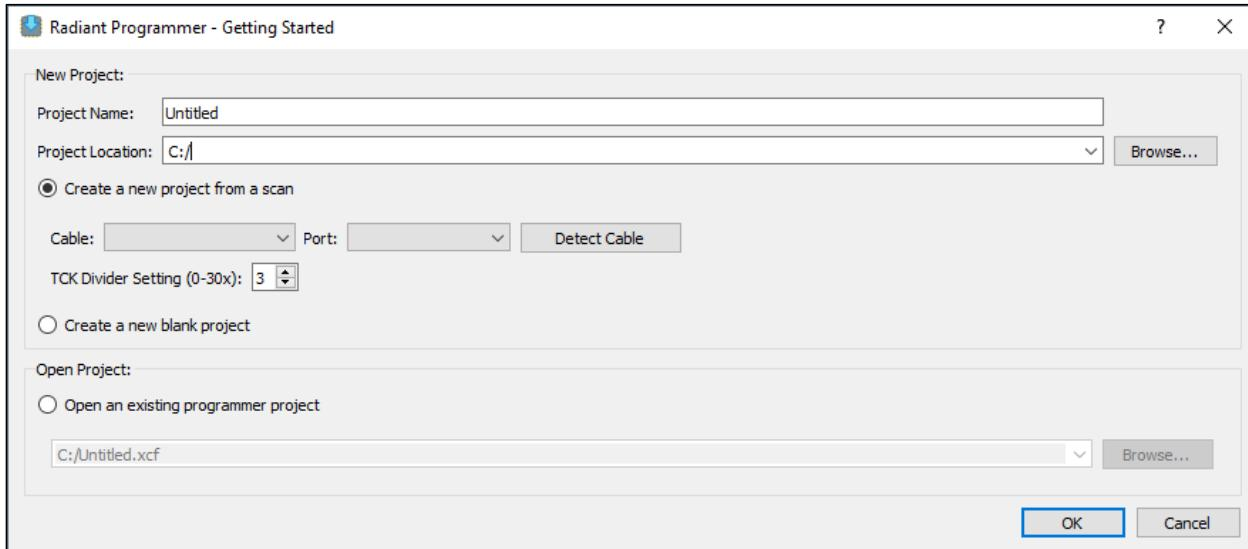

Figure 3.6. Starting Programmer
2. Start a programming project by launching the tool and initiating a board scan, as shown in Figure 3.6.